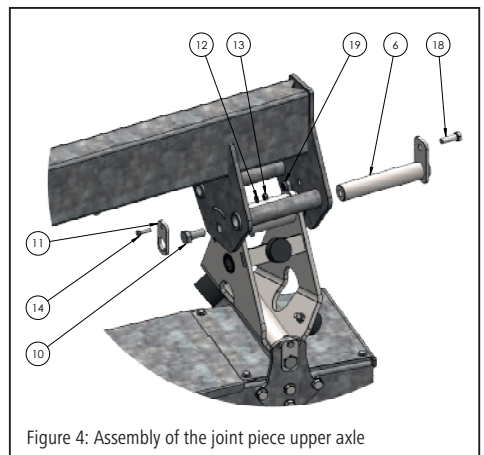
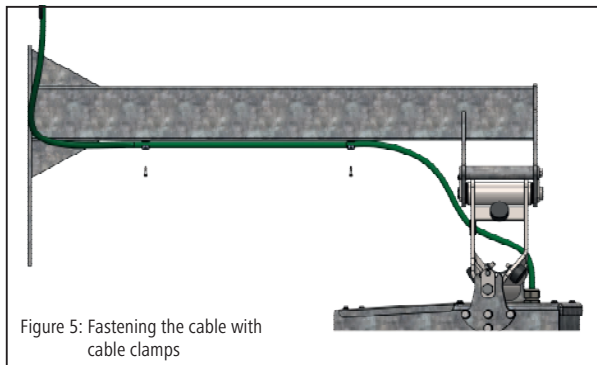

Figure 4: Assembly of the joint piece upper axle
Figure 5: Fastening the cable with cable clamps
1. Dismantle the upper axle (Fig. 4 - item 6) from the joint piece.
5. Push the upper axle (Fig. 4 - item 6) through the bearing in the suspension arm and the joint piece and mount it.
6. Secure the axle with the M14 fastening screw (Fig. 4 - item 10).
7. Secure the axle against rotation with the screw (Fig. 4 - item 18) and self-locking nut (Fig. 4 - item 19).
8. Secure the M14 fastening screw against loosening with the locking plate (Fig. 4 - item 11), screw (Fig. 4 - item 11), washer (Fig. 4 - item 12) and self-locking nut (Fig. 4 - item 13). Secure the motor cable to the suspension arm with clamps and self-tapping screws (Fig. 5).